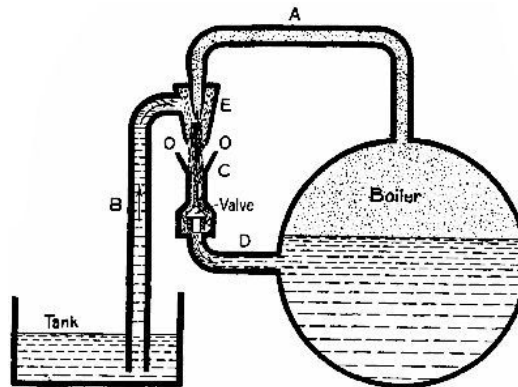

Fig. 15.—Diagram illustrating the principle of a steam-injector.
The water inside a boiler is kept at a proper level by (1) pumps or (2) injectors. The former are most commonly used on stationary and marine boilers. As their mechanism is much the same as that of ordinary force pumps, which will be described in a later chapter, we may pass at once to the *injector*, now almost universally used on locomotive, and sometimes on stationary boilers. At first sight the injector is a mechanical paradox, since it employs the steam from a boiler to blow water into the boiler. In Fig. 15 we have an illustration of the principle of an injector. Steam is led from the boiler through pipe A, which terminates in a nozzle surrounded by a cone, E, connected by the pipe B with the water tank. When steam is turned on it rushes with immense velocity from the nozzle, and creates a partial vacuum in cone E, which soon fills with water. On meeting the water the steam condenses, but not before it has imparted some of its *velocity* to the water, which thus gains sufficient momentum to force down the valve and find its way to the boiler. The overflow space O O between E and C allows steam and water to escape until the water has gathered the requisite momentum.